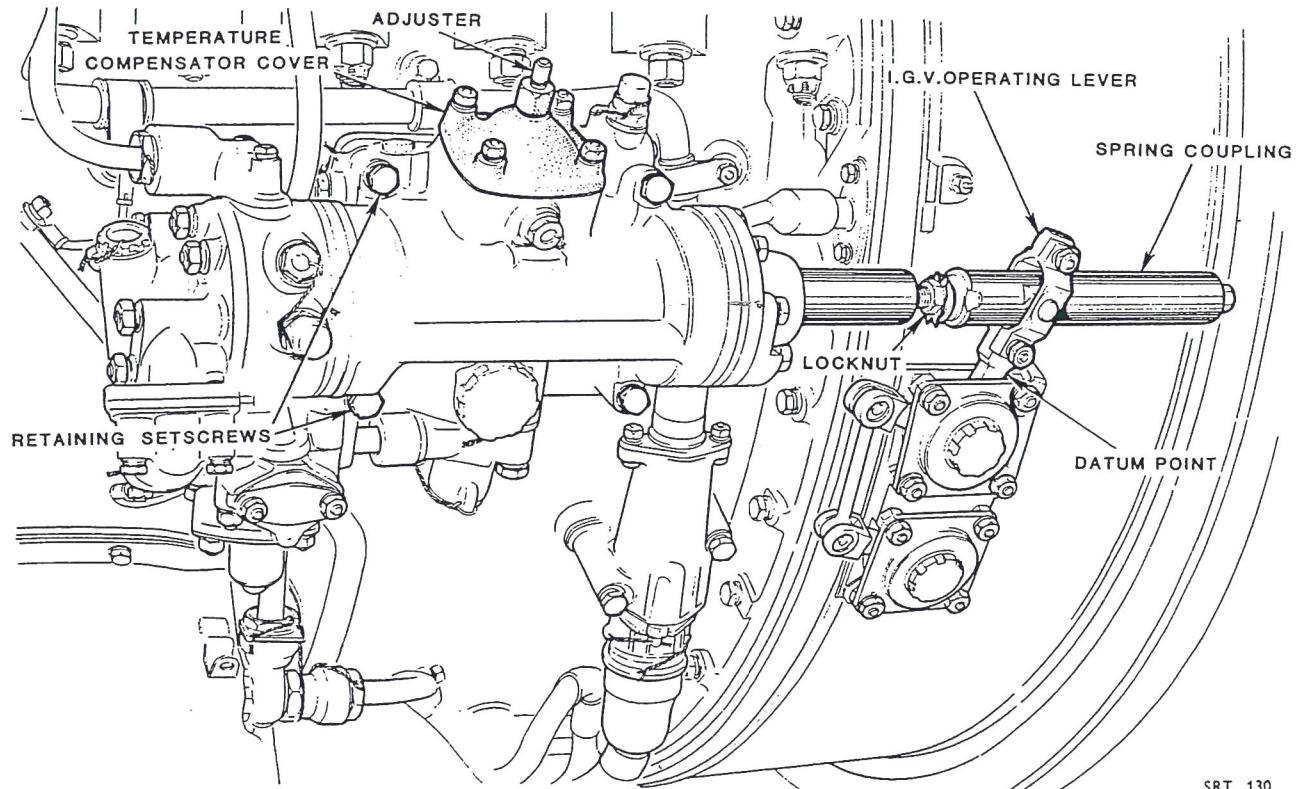

Fig.3 Intake guide vane ram
(1) Replacing is the reverse of removing. Ensure all joint faces are clean, and flush out pipes with clean kerosine before fitting.
(2) Ensure that the inlet guide vane ram piston is fully extended on its forward internal stop and after connecting the inlet guide vane ram spring coupling to the inlet guide vanes operating lever, check that the clearance between the flat on the operating lever and the adjacent datum point on the lever bearing housing (Fig.3) is 0.150 in. This check must be carried out with the free play at the operating lever/cap assembly engagement holes to spring coupling trunnions taken up, by holding the operating lever towards the rear of the engine, which will increase the clearance at the datum point (Fig.3). If necessary, adjust the clearance by loosening the locknut between the ram piston rod and spring coupling, then turn the piston rod to obtain the correct datum clearance. When adjustment is complete, ensure the tabwasher is correctly located in its slot, then fully tighten the locknut. Re-check the gap at the datum point to ensure that the 0.150 in. clearance has been maintained.
(3) Lock the locknut by bending all four locking tabs against the nut, using pliers. Do not bend the locking tabs with a drift, because shock loading may loosen the nut.
(1) To adjust the I.G.V. ram setting, slacken the adjuster (Fig.3) locknut and turn the adjuster clockwise to increase the rev/min at which the ram operates and vice versa. Tighten the locknut each time the adjuster is turned.